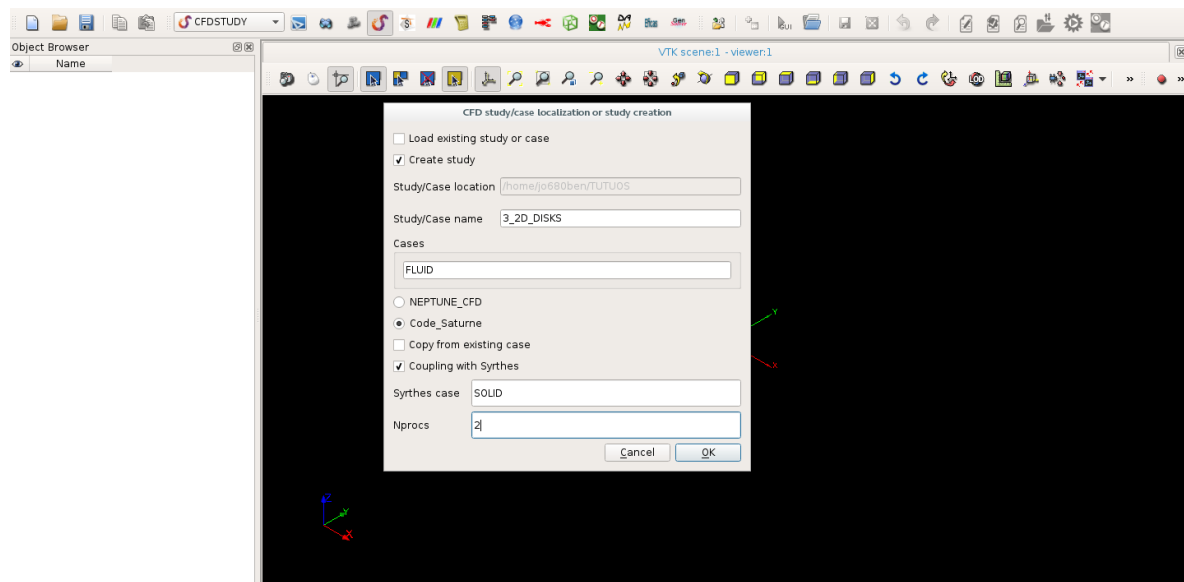

Figure II.1: Coupled study creation with SALOME module CFDSTUDY.
- Create coupled study with SALOME module CFDSTUDY as described on Figure II.1.